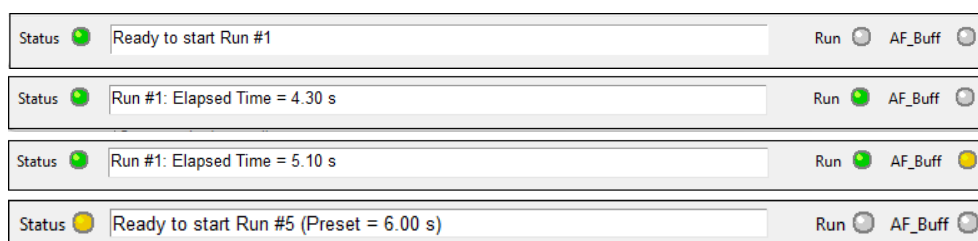

Fig. 3.13: Janus 5203 Status Bar.
The Status Bar in the bottom part of the Janus 5203 GUI displays basic information regarding the connection, the Run status and the board buffer Almost Full (AF) condition. In **Fig. 3.13** different configurations of the Status Bar are visible. From the top to the bottom the presented configurations are: